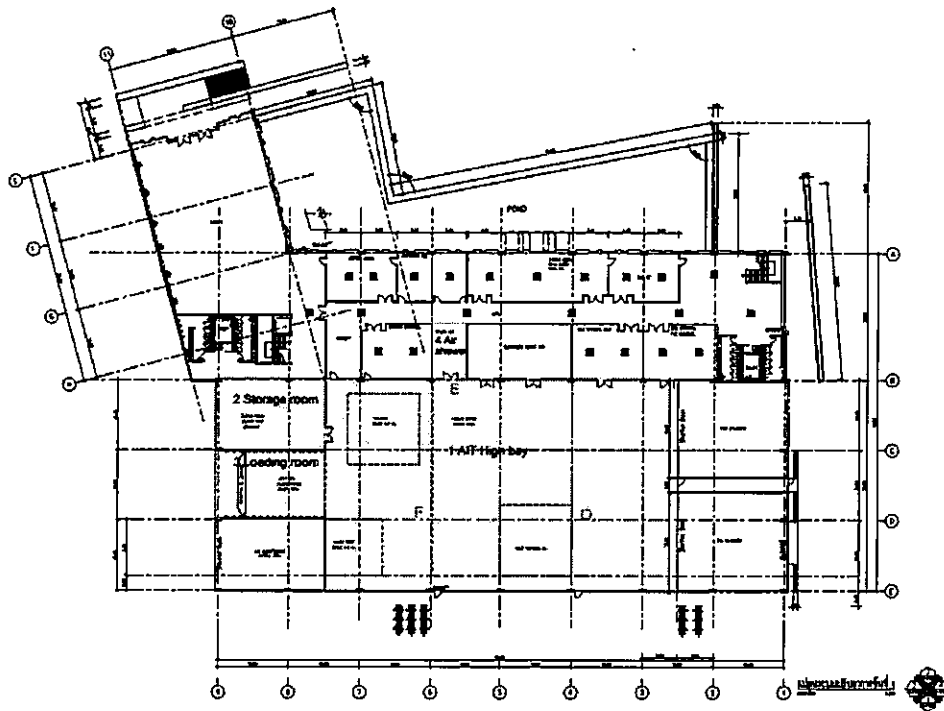

Figure 4: Layout of Clean Room and air shower
1.1 Setup and installation of three Class 100000 Clean Room. The first Clean Room is 30 meters wide, 50 meters high, 12 meters high (AIT high bay) and the second and third Clean Room are 10 meters wide, 15 meters high, 12 meters (Storage Room and Loading Room). Room details as shown in figure 4.
- 1.9 There must be an installation of an at least 1 set of air shower room or air shower equipment in area number 4 as depicted in figure 4. The area must be 5 meters in width and 8 meters in length and must include an area for locker, luggage storage facility and closet for grounding coat for prior to entering the Clean Room.